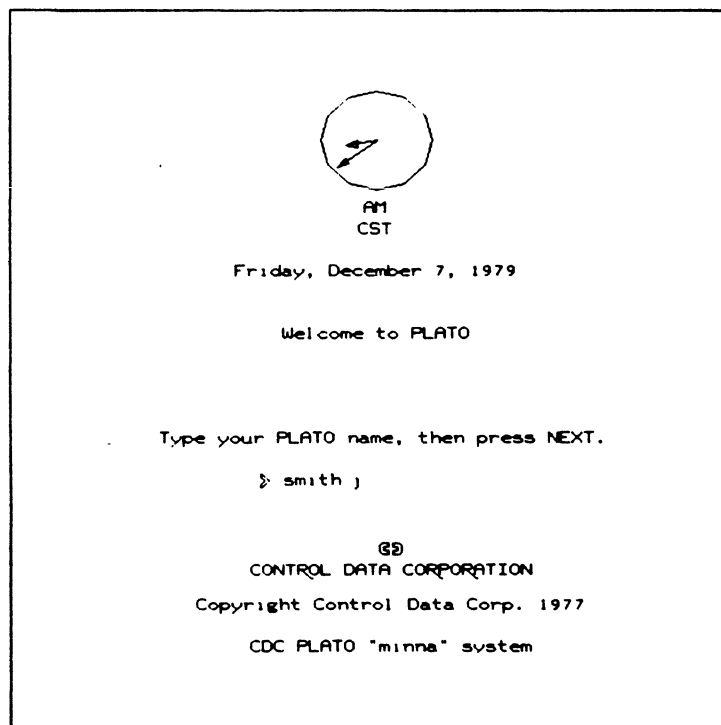

Figure B-2. Repeat
6. Enter your name exactly as you are registered in this course. Normally this will be your last name, followed by a space, and your first initial, with no capital letters (for example, smith j, as shown in figure B-2).